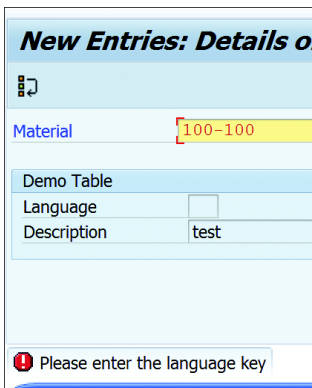

Figure 10.24 Error Message Triggered by Subroutine
- Click the NEW ENTRIES button on to create a record. If the `LANGUAGE` key field is left empty, it will show the error message on the NEW ENTRIES screen (see Figure 10.24).